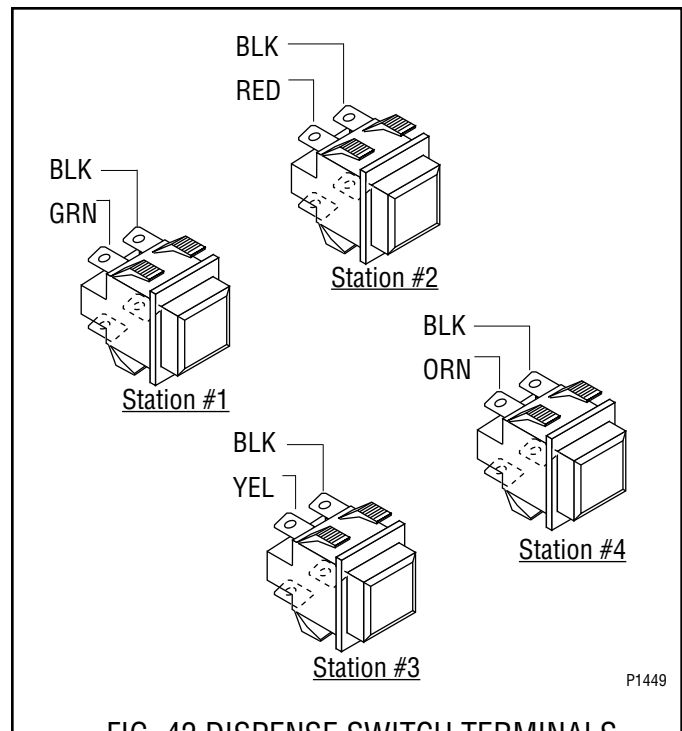

FIG. 42 DISPENSE SWITCH TERMINALS
8. Refer to Fig. 42 when reinstalling wires.